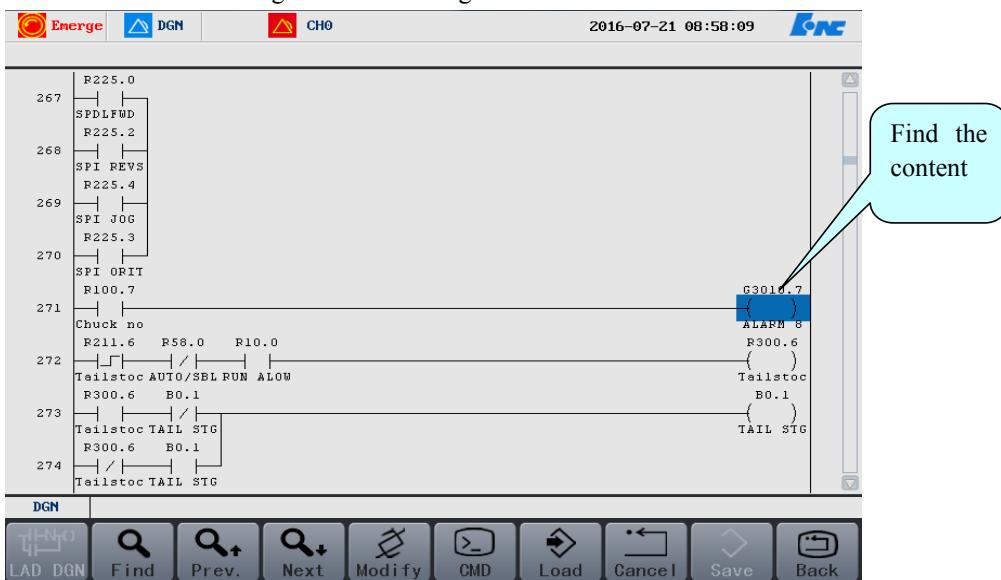

Figure 6.6.2 G3010.7 found
4. After the searching, the system will automatically go to the position where G3010.7 appears. Repeat the operation in the second step of searching for G3010.7 to find R101.2. The system will find two R101.2 points. One is in the 395 line within the sub-program SP3, which is cleared during reset. The other is in the 498 line, where the element is. See Figure 6.6.2.
5. According to the conditions in the 498 line as shown in Figure 6.6.2, repeat the operations in the second step and continue to find R101.1.